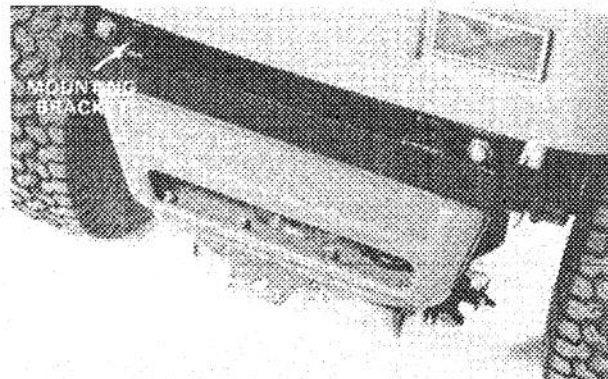

Figure 4
1. Secure bagging kit mounting bracket to rear of rider with (2) 5/16 - 18 x 3/4" lg. capscrews and locknuts (Fig. 4).